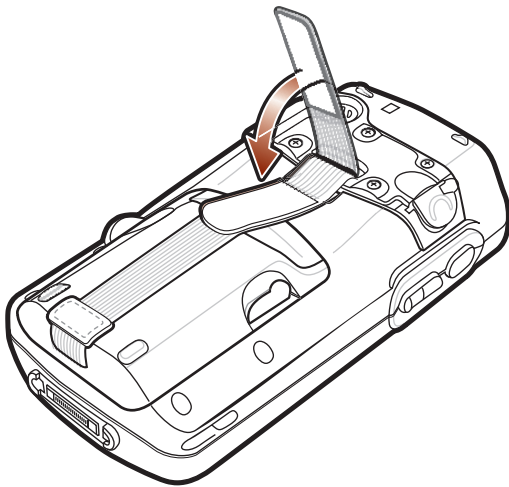

Figure 1-10 *Handstrap Adjustment*
2. Secure the handstrap by pressing the two sides together as shown in Figure 1-10.